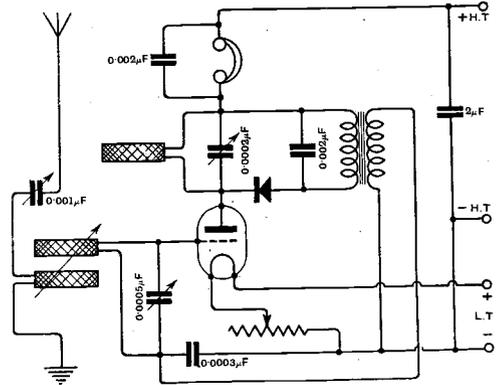

Fig. 3. "A.R.A." (Victoria Park, E.9.) Simple dual amplification receiver.
(1) A diagram is given in Fig. 3.